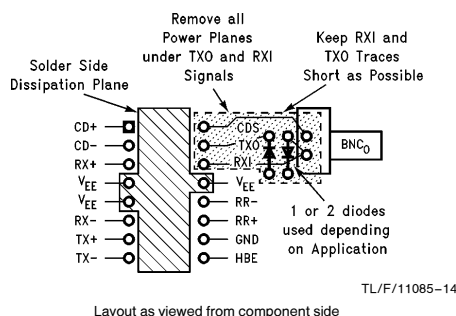
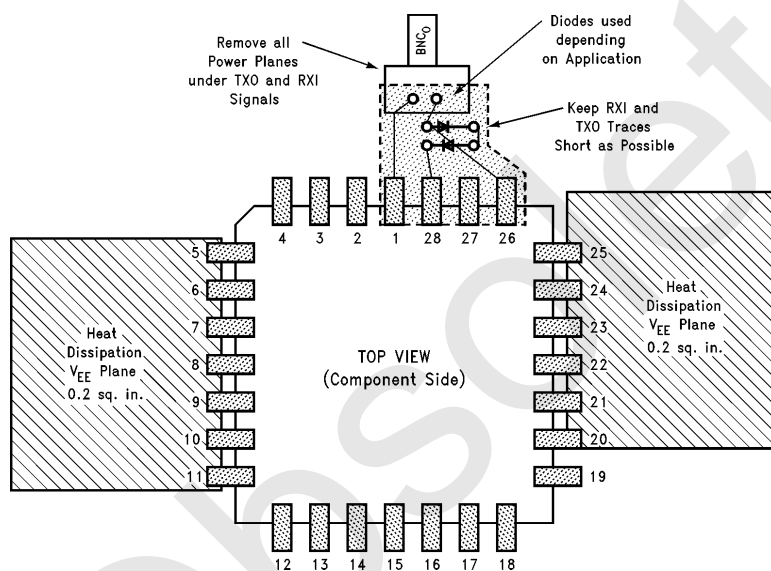

FIGURE 6. Typical Layout Considerations for DP8392CN (Not to Scale)
FIGURE 7. Recommended Layout and Dissipation Planes for DP8392CV (Not to Scale)
1. Ensure that the parasitic capacitance added to the RXI and TXO pins is minimized. To do this keep these signal traces short, and remove any power planes under these signals, and under any components that connect to these signals. *Figure 6* shows the component placement for the DIP package. The PLCC component placement would be similar, as shown in *Figure 7*.
The size of the trace plane depends on the package used and the duty cycle of transmissions. For the DIP package the plane should be connected to pins 4–5, 13, and the size should be approximately 0.2 square inches for applications where the duty cycle of the transmitter is very low (<10%). This would be typical of adapter or motherboard applications. In applications where the transmitter duty cycle may be large (repeaters and external transceivers) the total area should be increased to 0.4 in². *Figure 6* illustrates a recommended component side layout for these planes.
For the PLCC packaged DP8392, it is recommended that a small printed circuit board V_{EE} plane be connected to pins 5–11, and a second one be connected to pins 20–25. To reduce the thermal resistance to the required value, the area of the plane on EACH set of pins should be $\geq 0.20 \text{ in}^2$ for applications with low transmitter duty cycle, and $\geq 0.4 \text{ in}^2$ for high transmit duty cycle applications. Figure 7 illustrates a recommended component side layout for these planes.